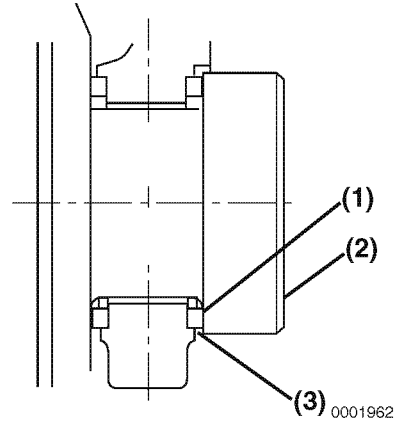

Figure 6-54
- **Method B:** Use a feeler gauge to measure the clearance (Figure 6-54, (3)) between the thrust bearing (Figure 6-54, (1)) and crankshaft (Figure 6-54, (2)). Record the measurement. See *Thrust Bearing* on page 6-9 for the service limit.